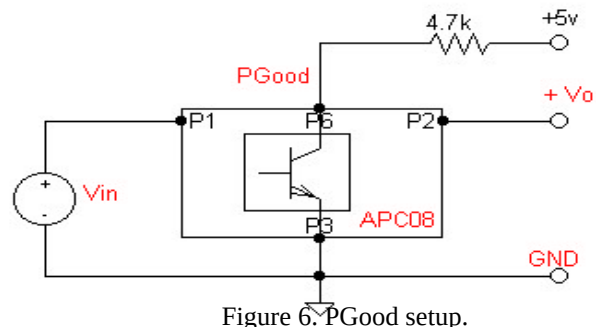

Figure 6: PGood setup.
7. See Figure 6 for PGood configuration
PG pin provides an output signal indicating the Vout is operational (TTL logic signal). It can sink current up to a max of 5mA and can have a maximum external pull-up voltage of 6V. Please see recommended setup shown on Figure 6.